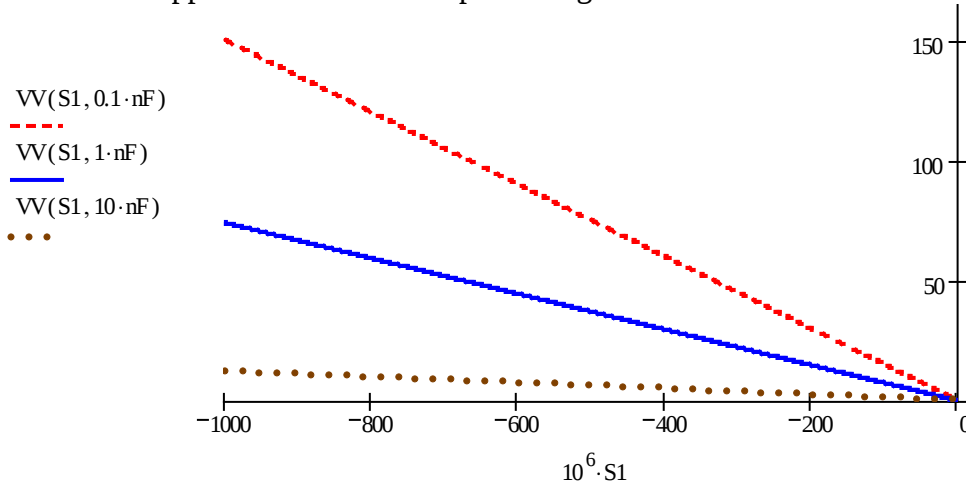

Figure 2 Variation of measured voltage with strain for various values of C_e : 0.1 nF, 1 nF, 10 nF
(iv) To plot the variation of measured voltage with strain and to make a carpet plot of V vs. S_1 for various values of C_e , use Eq. (2), give to C_e the values 0.1 nF, 1 nF, 10 nF, and plot them overlapped. One obtains the plot in Figure 2 below.